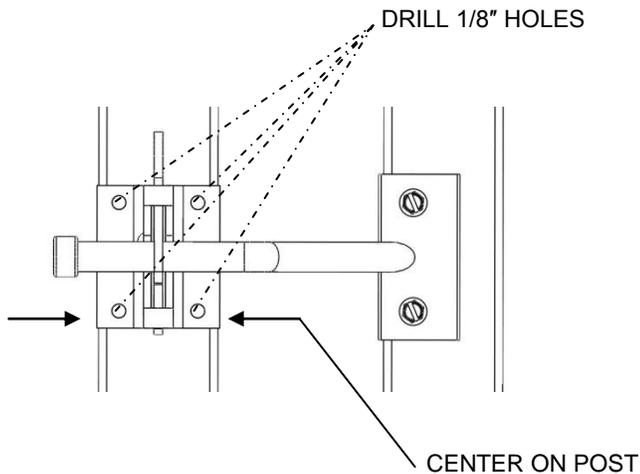

**FIG. 6.30**
- 6.10.4. Center finger catch on the gate square tube opposite the hinge and mark center of holes with a pencil. Drill three 1/8" holes through one side of the vertical handrail tube (FIG. 6.30).